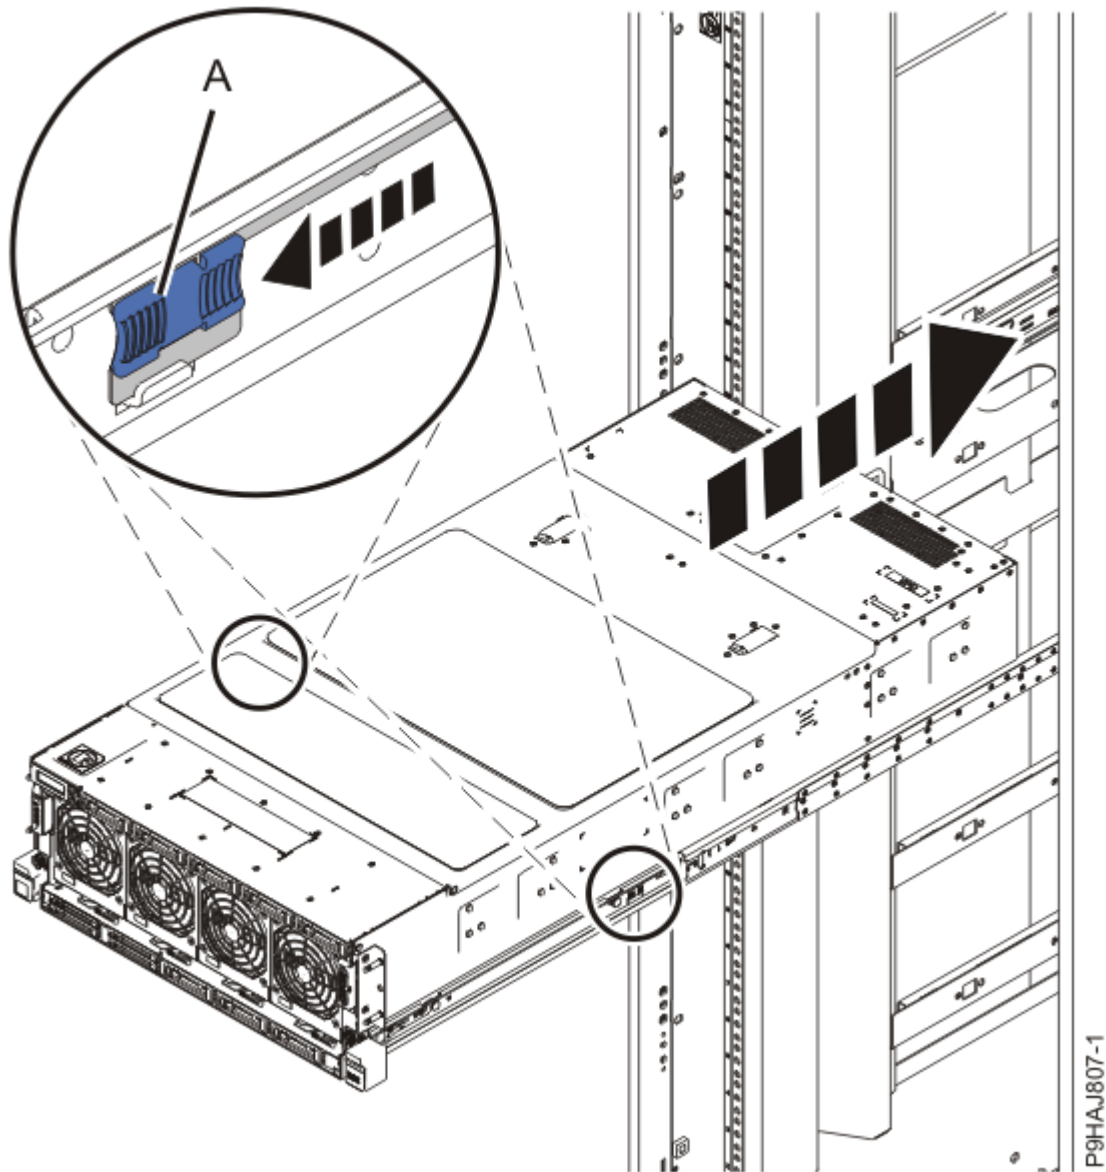

Figure 18: Releasing the latches in the middle of the rails and pushing the system into the rack
2. Move to the front of the rack. Release the latches in the middle of the rails (**A**) and push the system halfway into the rack, as shown in Figure 18 on page 19.